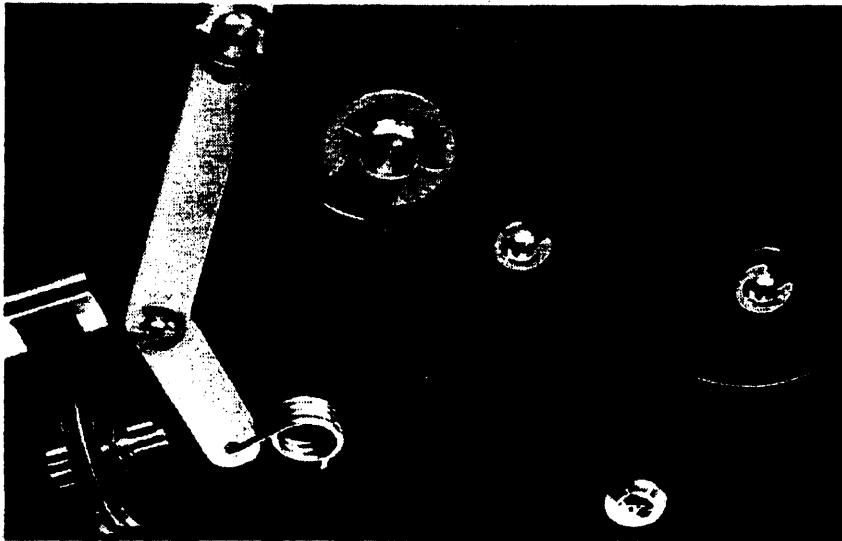

Figure 6-21. Right Bail-Arm and Spring
2. When you reinstall the right-hand bail arm, refer to figure 6-21 for the proper placement of the arm and spring. The left-hand bail arm is positioned in a similar manner.
3. To install the right-hand spring, place the short side of the spring in the bail-arm hole and the longer side in the printer frame hole. If the two legs are properly seated, the spring can be pushed down easily to its normal position flat against the frame. If it does not position easily, the legs are not set in properly. See figure 6-21.